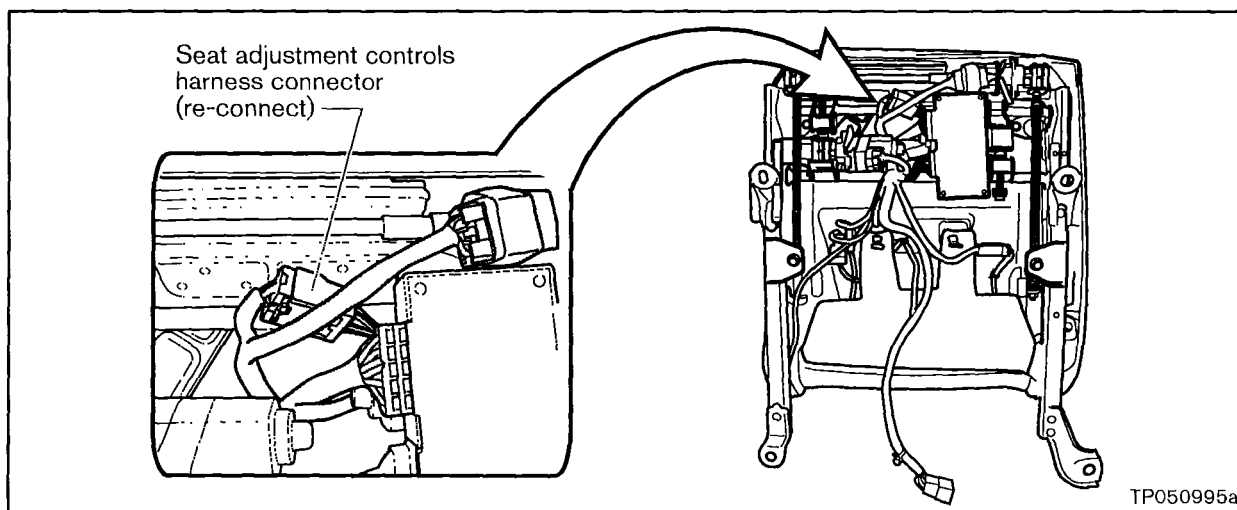

Figure 13
- The seat adjustment controls harness connector is reconnected and secured to the lower cushion metal seat pan with a new connector clip. See Figure 13.